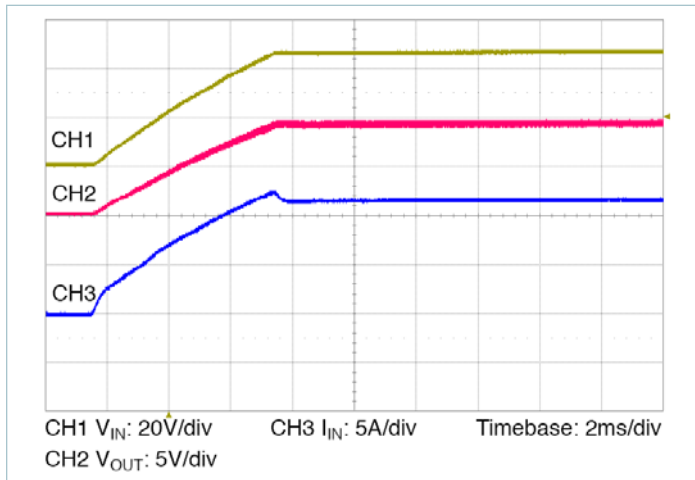

Figure 13 — Start up from application of V_{IN} ; V_C pre-applied $C_{OUT} = 1000\mu\text{F}$
- **Normal operation (VC applied prior to V_{IN}):** In this case the controller is active prior to ramping the input. When the input voltage is applied, the VTM module output voltage will track the input (See Figure 13). The inrush current is determined by the input voltage rate of rise and output capacitance. If the VC voltage is removed prior to the input reaching 26V, the VTM may shut down.